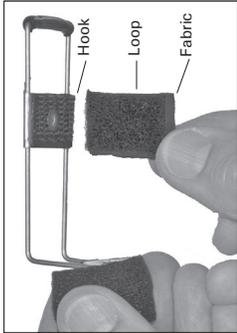

Fig 1
Step 1. Apply 1 pad to the slide, with the fabric towards the finger for comfort. Fig 1.